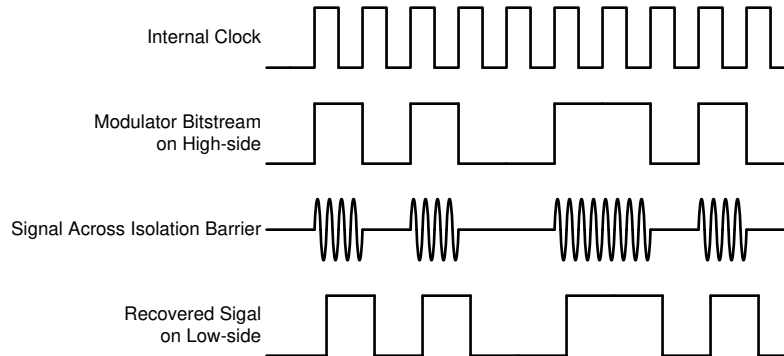

图 7-1. OOK-Based Modulation Scheme
The AMC3301 uses an on-off keying (OOK) modulation scheme, as shown in 图 7-1, to transmit the modulator output bitstream across the capacitive SiO₂-based isolation barrier. The transmit driver (TX) shown in the Functional Block Diagram transmits an internally generated, high-frequency carrier across the isolation barrier to represent a digital *one* and does not send a signal to represent a digital *zero*. The nominal frequency of the carrier used inside the AMC3301 is 480 MHz.